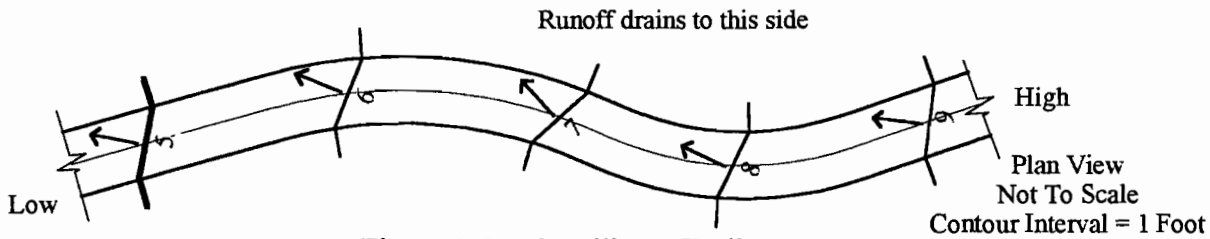

Figure 3-29. Curvilinear Walk
Figure 3-29 shows a curvilinear walk with cross slope. In this example, it is shown with a centerline. On the exam, centerlines are normally not provided, but if spot elevations are provided in the center of a walk, adding a centerline will facilitate plotting whole number contour lines with cross slope.
15. Contour signature representing a concrete walk with longitudinal slope and cross slope, and with the finish surface of the walk elevated approximately 1-inch above the adjacent non-paved finish grade. This is customarily done to keep debris-laden runoff from adjacent non-paved areas off hardscape surfaces. Note that contour line “breaks” at the edge of the walk to denote the 1-inch break in grade, as shown in Figure 3-29. However, at this point in time, CLARB has not required this convention